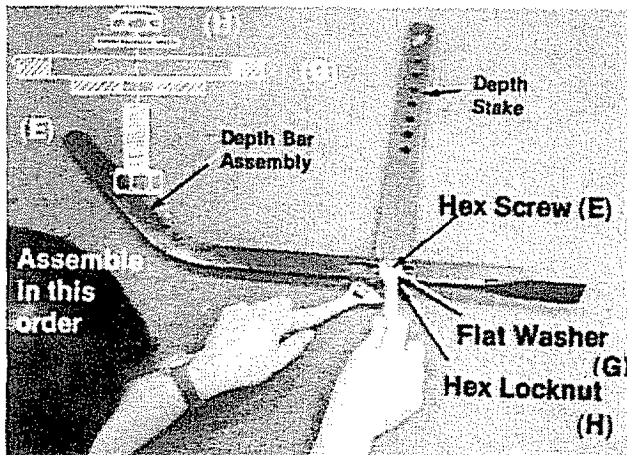

FIGURE 5.
- C. Remove depth stake from tiller and preassemble depth stake to drag bar assembly with hex screw (E), flat washer (G) and hex locknut (H). See Figure 5. Tighten nut and bolt, but do not over tighten. Parts must pivot.